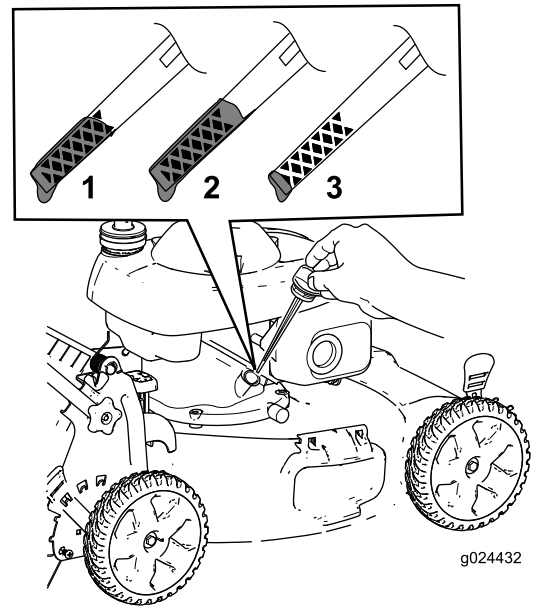

Figure 25
3. Remove the dipstick by rotating the cap counterclockwise and pulling it out (Figure 25).
4. Tip the machine onto its side (so that the air filter is up) to drain the used oil from the oil-fill tube (Figure 25).
10. Read the oil level on the dipstick (Figure 25).